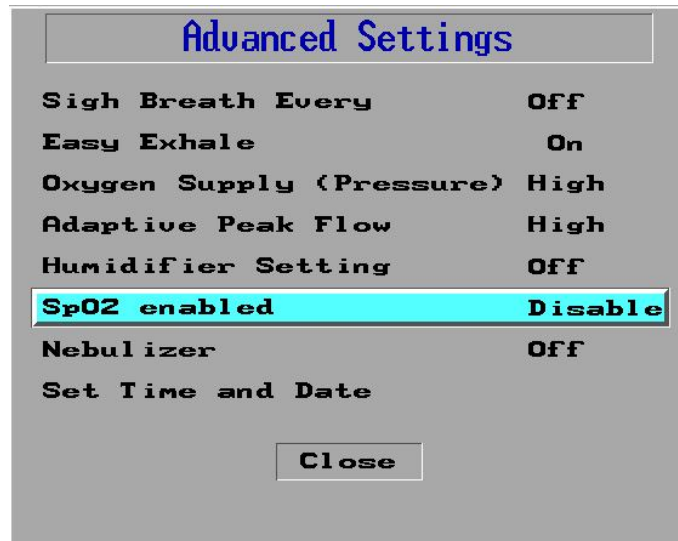

Figure 89: SpO2 Enabled
2. In the Advanced Settings screen select SpO2 enable. The current setting is shown in the right column of the screen (Figure 89).